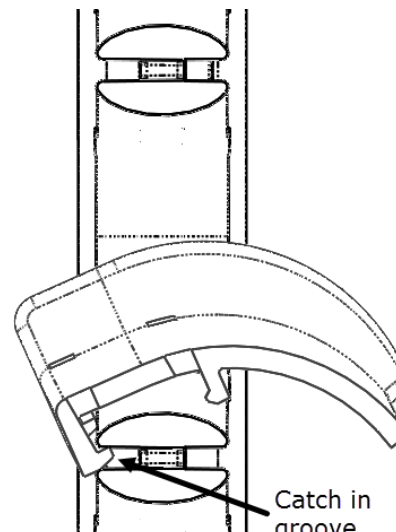

Fig. 2
2. The two snaps hook on the inside of the side flange fit into the groove on the cable management finger as shown in Fig. 2.